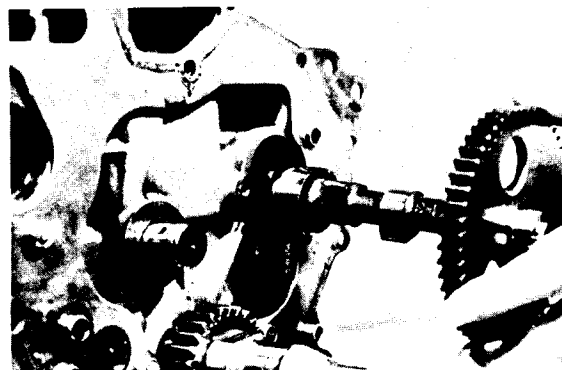

Figure 79
- C. Pull the camshaft out of the cylinder block (Fig 79).